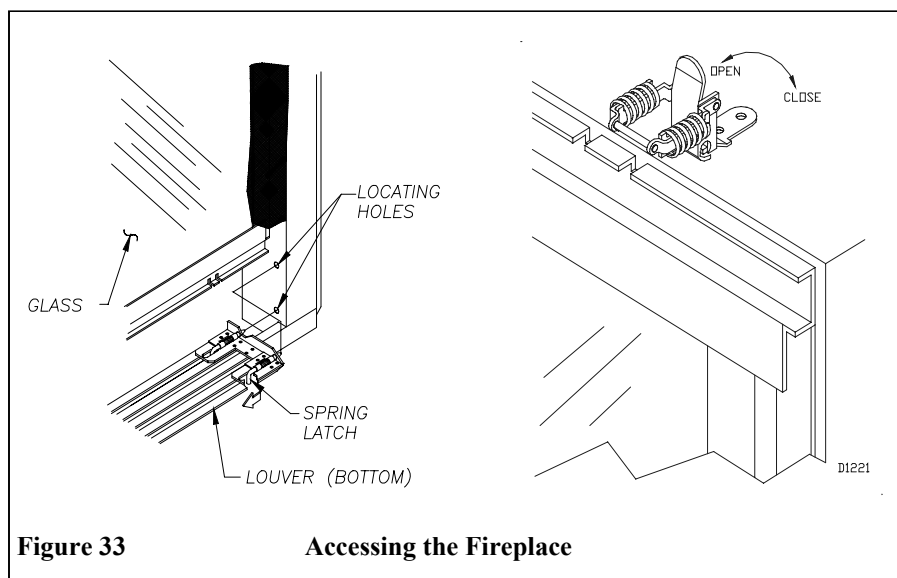

Figure 33
1. Remove the upper and lower louver panels by pulling the four spring latches towards the center while simultaneously pulling the louver assembly away from the unit. The latches are located at each end just below the uppermost and just above the lowermost louvers. See figure 33.
3. Open the glass door by releasing the two pairs of latches located on the top and bottom of the firebox (see figure 33). You may need a screwdriver to extend the spring-loaded clasp over the catch on the door flanges. Use caution when opening these latches.